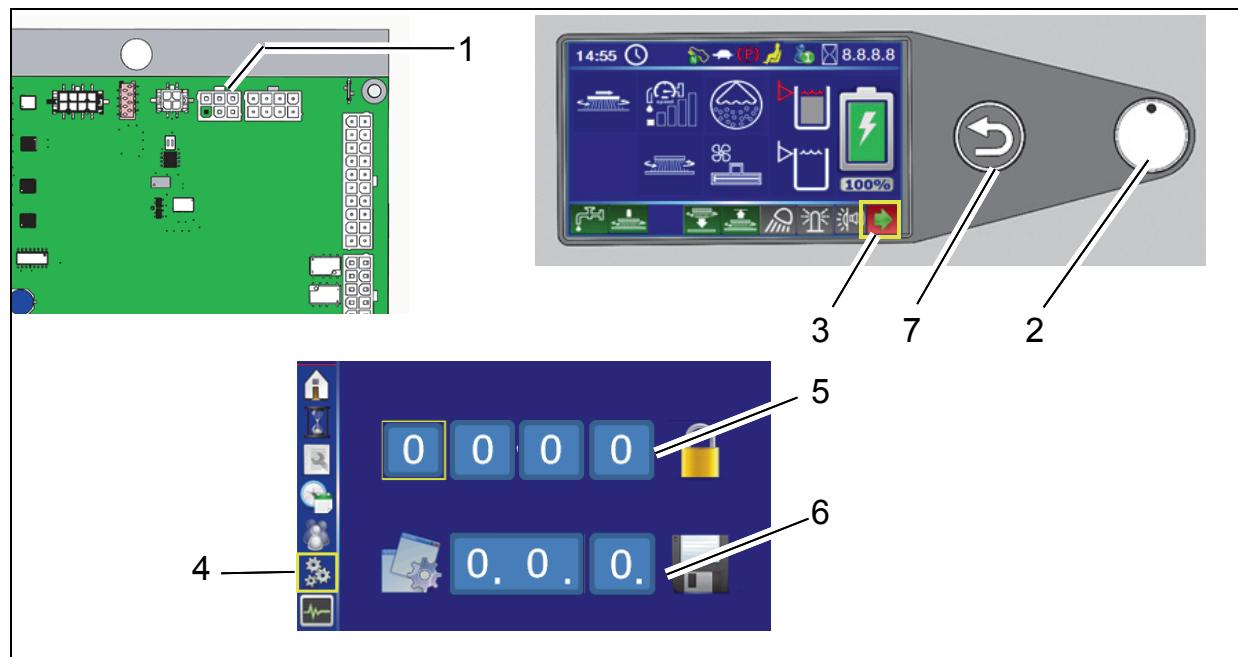

Fig. 3
Connect diagnosis plug to slot X20 of controller A1 (Fig. 3/1).
2. Select the arrow soft key (Fig. 3/3) on the control panel using the turn-push knob (DDS)(Fig. 3/2) and press to access the sub-menu.
3. Select the configuration menu in the sub-menu (Fig. 3/4).
4. Enter the 4-digit code in the configuration menu at the top (Fig. 3/5):
5. Select the value of the option under (Fig. 3/6) in the configuration menu and save by pressing the DDS. After confirming the last digit, OK? appears. Press DDS again to save the value. Saved value is displayed in green.
If the value is not to be saved, exit menu using the return key (Fig. 3/7).